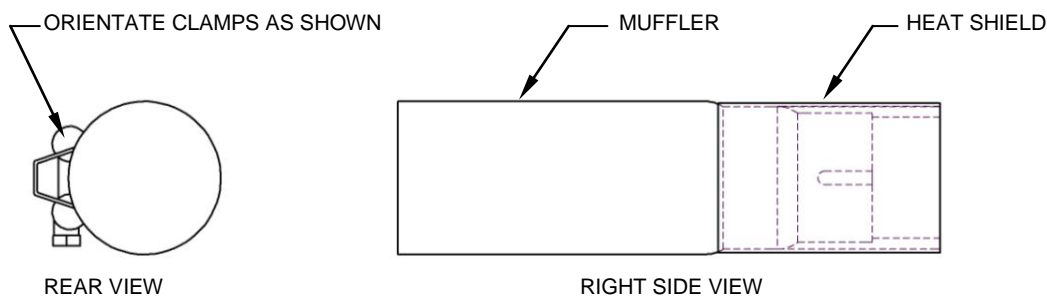

FIGURE 2
4. Slide one supplied clamp #27-61MSC onto each muffler and position as shown in Figure 2.
9. Adjust the mufflers so that they are in proper alignment with the heat shields as shown in Figure 2. NOTE: On Part #4566SC, the heat shield should cover the weld. Rotate the muffler clamps so they don't interfere with the heat shield fitment but are still accessible to tighten. (NOTE: If the clamps are slid to far up on the muffler or past the slots, the clamps will not tighten.)
13. Install the regulator onto the Cobra black regulator relocation bracket using the stock bolts and two (2) 6mm nylock nuts supplied.